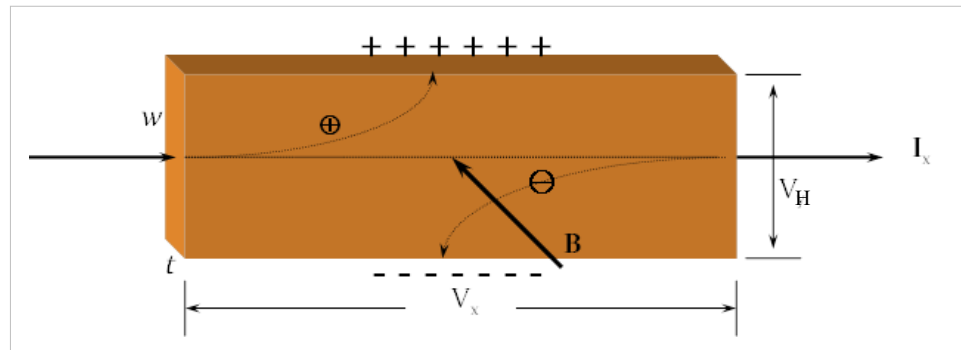

FIGURE 2-19 Hall effect
When the combination of a magnetic field and a flowing current in a material produces a new voltage, the Hall voltage, it is called the Hall effect. The Hall effect is illustrated in FIGURE 2-19 and can be explained as a long thin material with a current, I, flowing along the length. The current, I, is the total charge per second and is related to the velocity (V_x) by $I = neV_x w t$, where n is the volume concentration of the carriers in the material and V_x is the velocity of the carriers. If a static (DC) magnetic field is present in the z direction (into the plane of the paper in FIGURE 2-19), then there is a force on the charges given by $-eV_x B$. This force, called the Lorentz force, pushes the carriers along the curved lines in FIGURE 2-19.